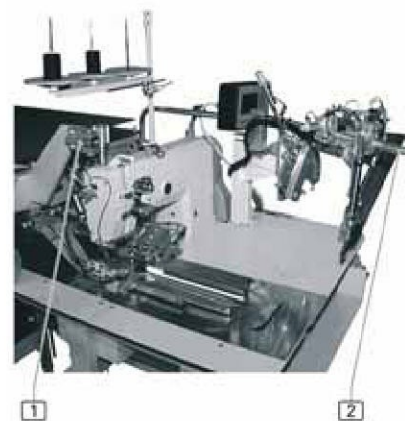

fig. 11
- 3 Insert the needle, thread the needle thread and insert the bobbin for the bobbin thread in the sewing head (to do so see the instruction manual of the manufacturer or of the sewing head supplier). **fig. 11:** For the preparation work the holder **2** of the folder can be swung aside to enable free access to the sewing head. If light tension or pressure is applied, the holder clicks into the snap fastener of retainer **1**